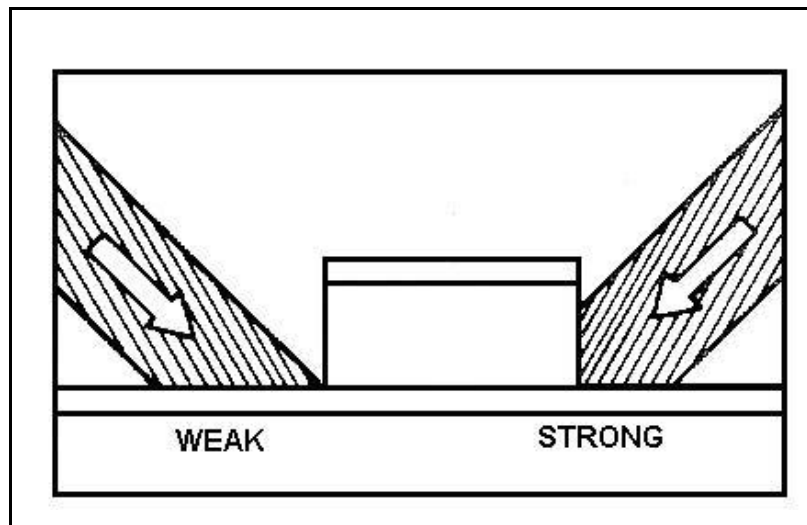
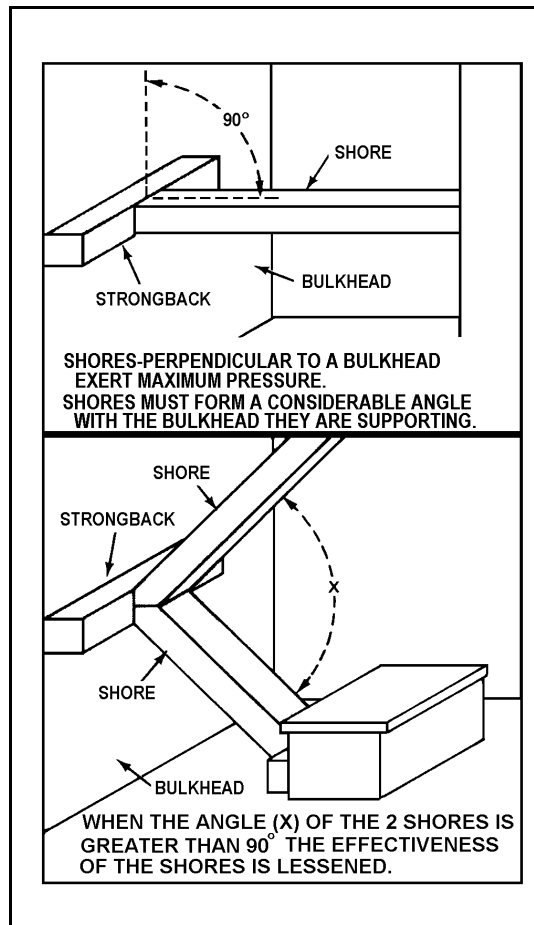

Figure 22-2. Anchoring Fit
Figure 22-3. Correct Shoring Angles
- Spread the pressure. Make full use of strength members by anchoring shores against beams, stringers, frames, stiffeners, and stanchions (see Figure 22-2). Place the legs of shoring against strongbacks at angles from  $45^{\circ}$  to  $90^{\circ}$  (see Figure 22-3).